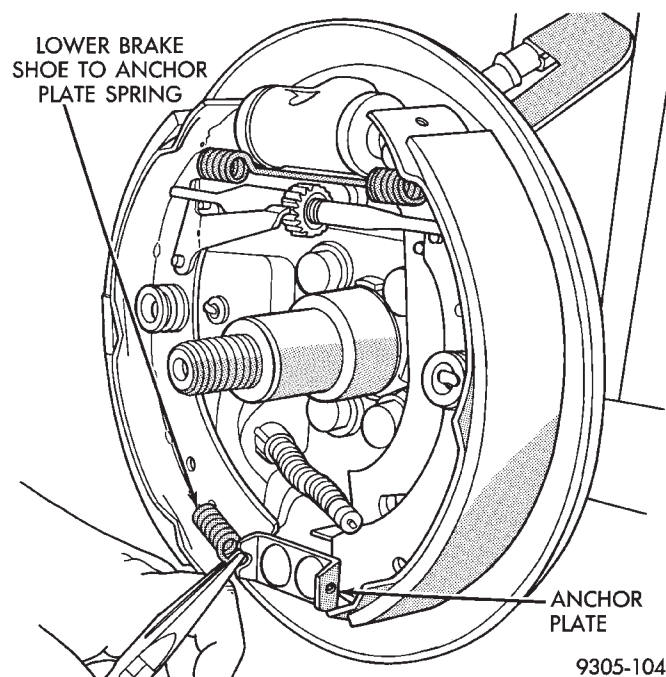

Fig. 9 Lower Brake Shoe To Anchor Plate Spring
(6) Remove both lower brake shoe assembly to anchor plate springs (Fig. 9).
(6) Install both lower brake shoe assembly to anchor plate return springs (Fig. 9)